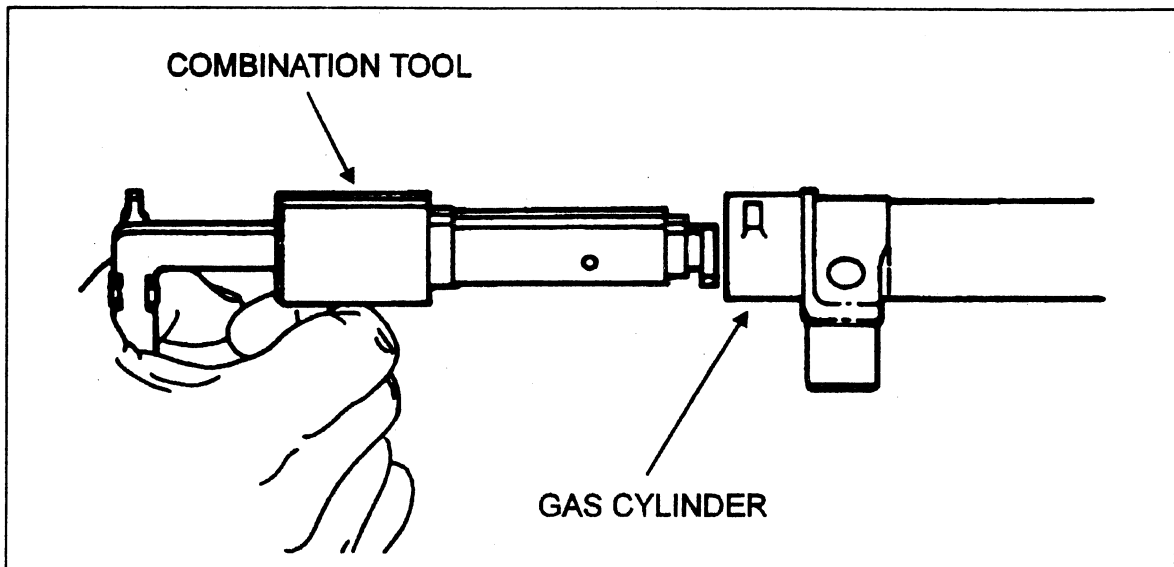

Fig 1-29. Inserting the combination tool into the fore end.
- (8) Insert the combination tool carefully into the fore end of the gas cylinder of the receiver body (see fig 1-29).